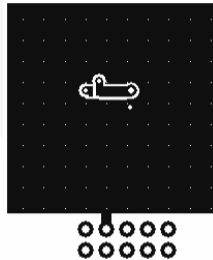
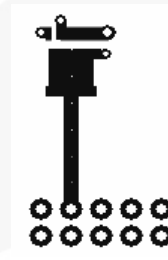

Figure 4. 1 Square Inch of 2-ounce copper
Figure 5. Minimum Pads of 2-ounce Copper
$T_A = 25^\circ\text{C}$ ⁽²⁾ (see Figure 4)	2.3
- The device power dissipation and thermal resistance (R_θ) are characterized with device mounted on the following FR4 printed circuit boards, as shown in Figure 4 and Figure 5